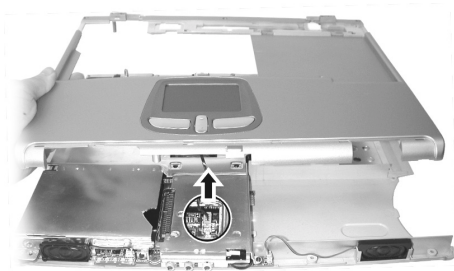

Figure 2-23
6. Lift up the base unit cover and disconnect the touchpad cable. (Figure 2-23)